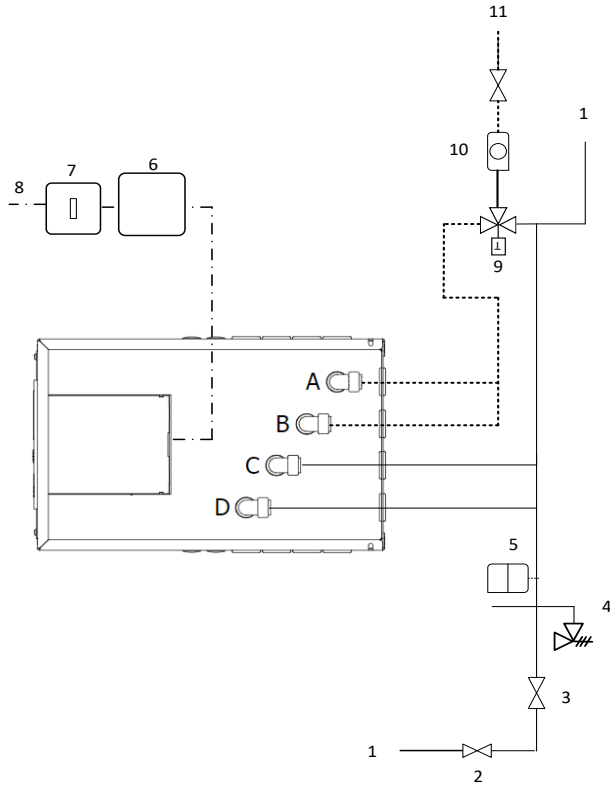

Figure 13.1: UniQ eHW 12 +iPV schematic (see Figure 3a for piping and electrical options available)
- Run and connect 4 Core mains power supply cable (16A, minimum 2.5mm2 CSA) from the Solar Power Diverter to the Heat Battery. (Figures 13.1, 13.2, 13.3 & Section 3.9).
Table 13.2: Explanation of components for Figure 13.1 and 13.2.